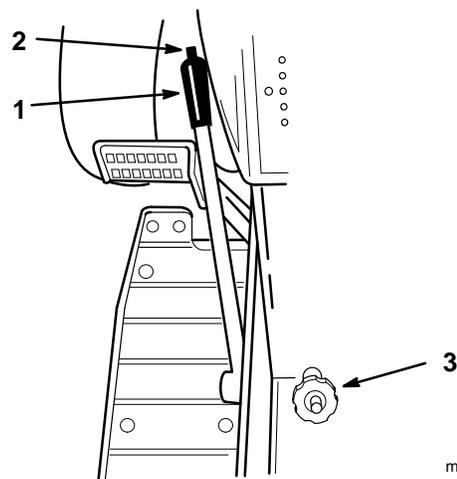

Figure 11
The Dial-A-Height control (Fig. 11) is used to limit the downward travel of the attachment. The Dial-A-Height knob is rotated to change the location of this stop, up or down.
1. Raise the attachment lift lever: Refer to Raising Attachments. In the raised position the Dial-A-Height knob (Fig. 11) can be rotated to change the stop location. Turn clockwise to raise and counterclockwise to lower the height of the attachment.
The attachment lift lever (Fig. 11) is used to raise and lower various attachments.